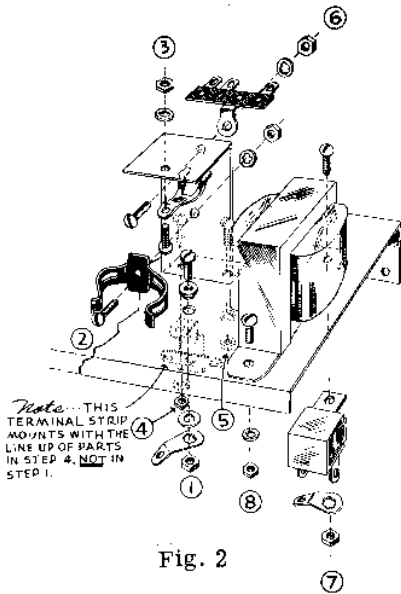

Fig. 2
Next consult Figure 2 very carefully and note the numbers 1 through 8. If all parts of each step are mounted in sequence, the assembly will go together easily and no parts will interfere with the mounting of parts which follow.
- () Step 7. The power transformer is next. First pass the two red and the two yellow leads through grommet B, and leave the two black leads above the chassis. In location A, (see Figures 2 and 3) pass a 6-32 screw through the transformer flange and chassis, and fasten the rectifier to the chassis with a solder lug and nut. Be sure the rectifier is oriented as shown and is not turned around.